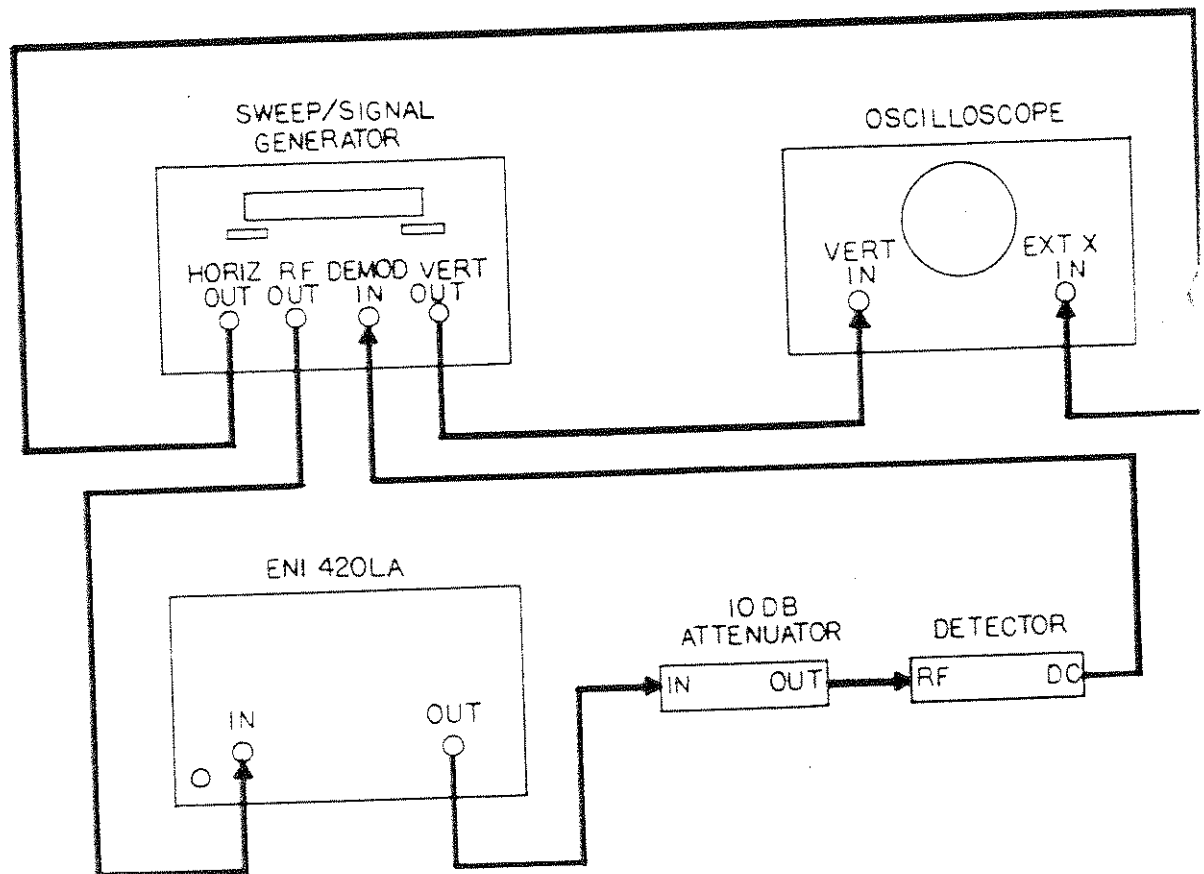

Figure 4-1. Gain Measurement
Connect the equipment as shown in Figure 4-1, then proceed as follows:
- (g) Reconnect the 420LA into the test set-up of Figure 4-1.